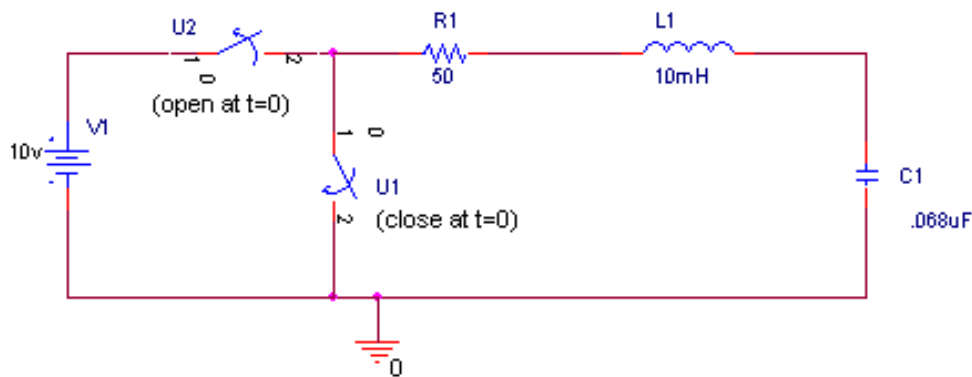

Figure D-3.
- Create the oscillating circuit in Figure D-3 above in PSpice.